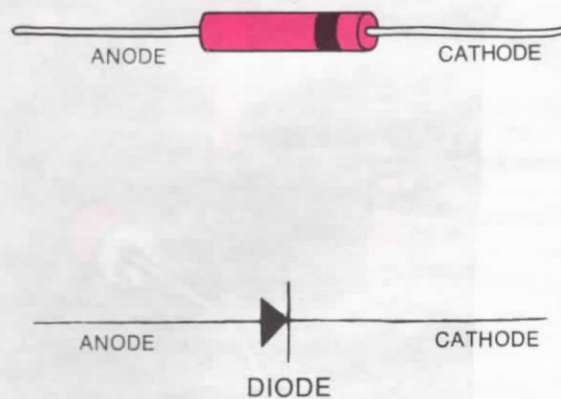

FIG. 38
4. Insert the cathode lead (lead nearest to colored band, refer to Figure 38) of voltage doubler diode CR1 through hole 13. Insert the other lead (anode) through hole 12.